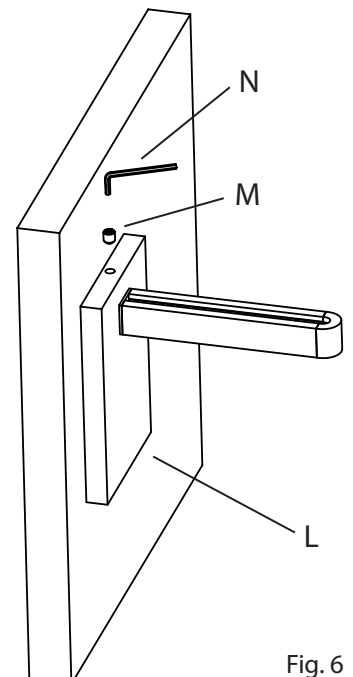

Fig. 6
20. Attach Power Feed (L) to mounting bracket (J). Secure using set screw (M) and included Allen key (N). (Fig. 6)